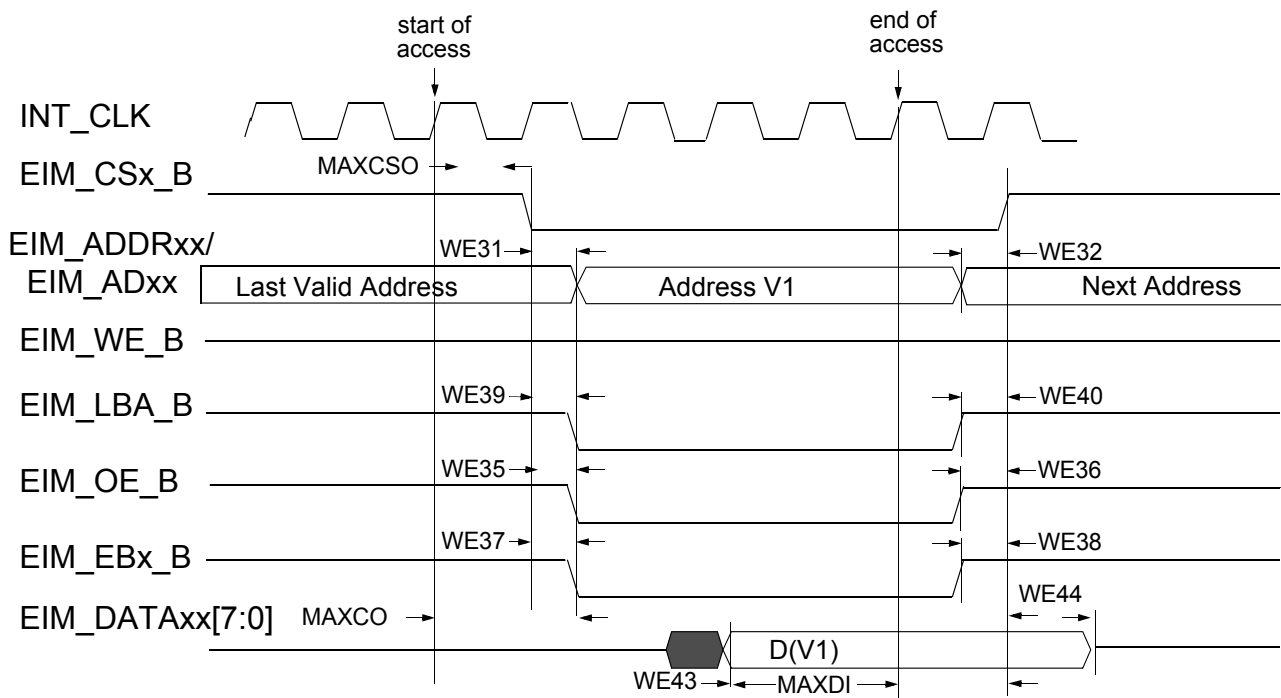
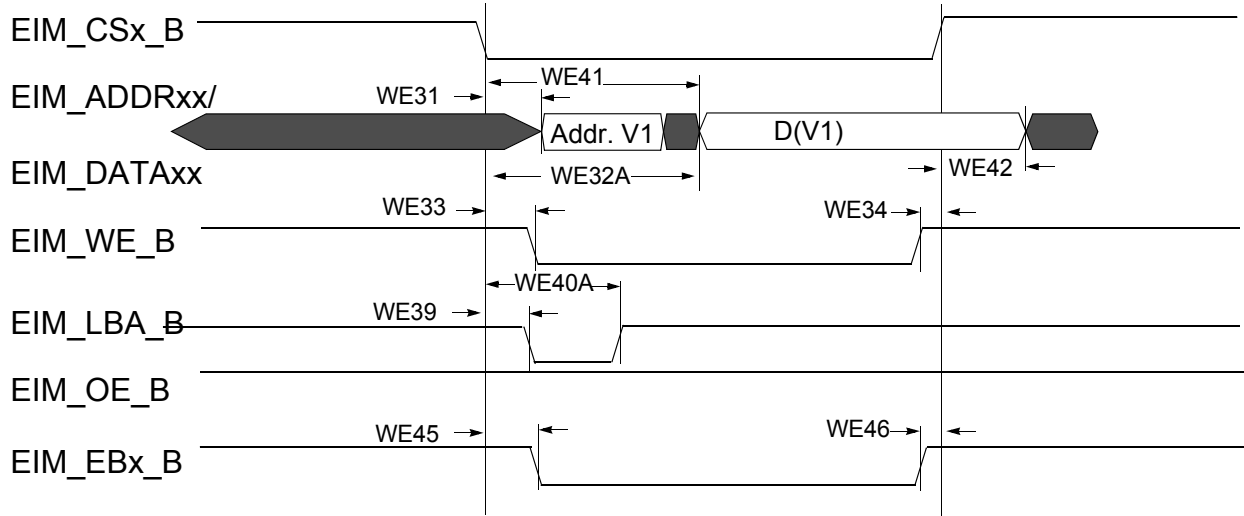

Figure 15. Asynchronous Memory Read Access (RWSC = 5)
Figure 18. Asynchronous A/D Muxed Write Access
Figure 15 through Figure 19, and Table 40 help to determine timing parameters relative to the chip select (CS) state for asynchronous and DTACK EIM accesses with corresponding EIM bit fields and the timing parameters mentioned above.
Asynchronous read & write access length in cycles may vary from what is shown in Figure 15 through Figure 18 as RWSC, OEN and CSN is configured differently. See the *i.MX 6ULL Reference Manual (IMX6ULLRM)* for the EIM programming model.